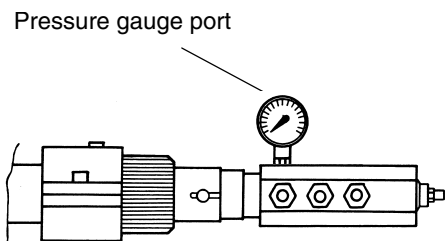

Fig. 18
- 7 the nozzle supply pressure is already factory-set and must not be changed. Only if necessary, adjust the supply pressure as follows (see related paragraph); insert a pressure gauge into the port shown on Fig. 18 and act on the pump adjusting screw **VR** (see Fig. 17) as to get the nozzle pressure at 25bar (Fluidics nozzles - see diagram on page 21).